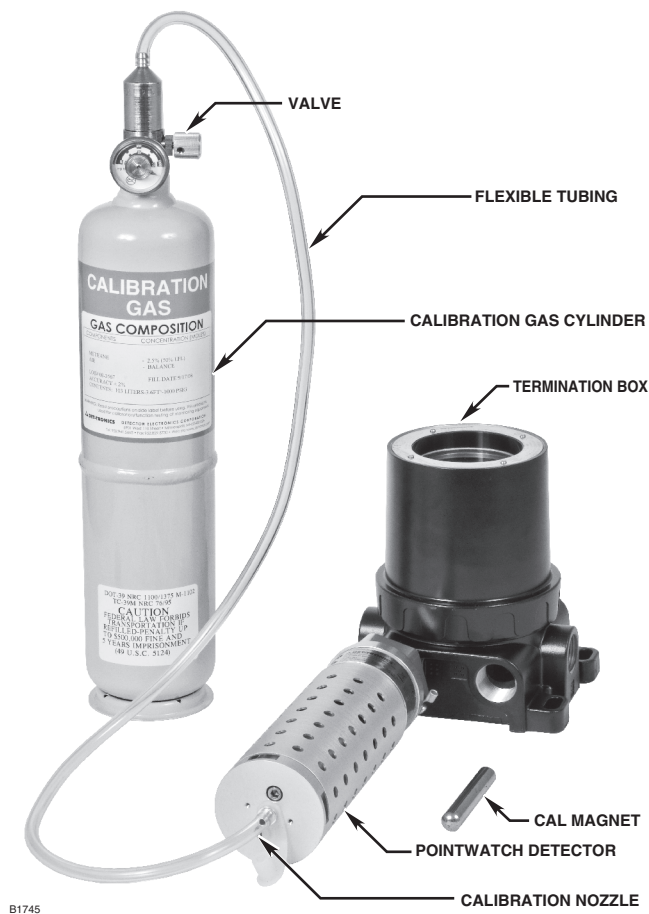
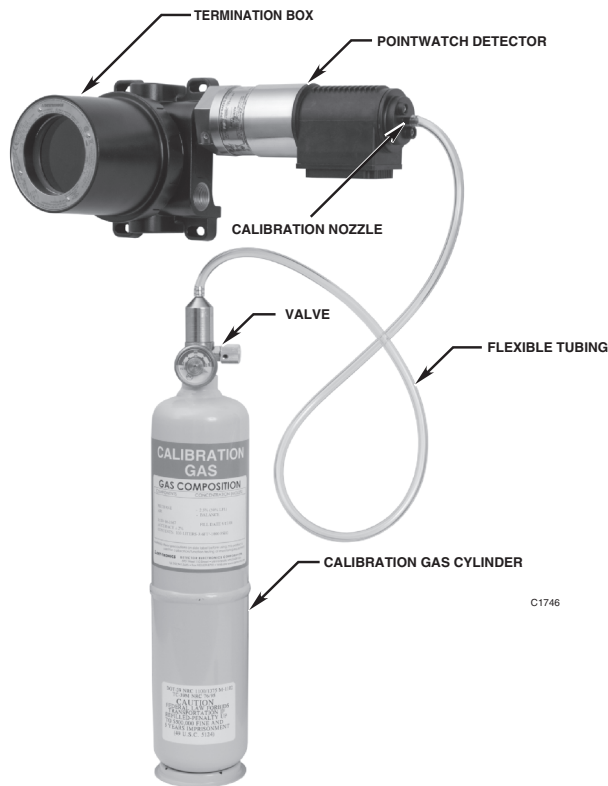

Figure 24—Aluminum PIR9400 Detector Calibration Configuration
Figure 25—Stainless Steel PIR9400 Detector Calibration Configuration
5. Connect the calibration gas canister, valve and tubing to the direct input nozzle as shown in either Figure 24 (aluminum model) or Figure 25 (stainless steel model) depending on the method used.
6. Apply 50% LFL calibration gas to the detector. This is accomplished by opening the valve on the calibration gas canister (see Figure 24 or Figure 25). A 2.5 liter per minute flow rate is recommended.
4. Connect the calibration gas canister, valve and tubing to the direct input nozzle as shown in either Figure 24 (aluminum model) or Figure 25 (stainless steel model) depending on the method used.
5. Apply 50% LFL calibration gas to the detector. This is accomplished by opening the valve on the calibration gas canister (see Figure 24 or Figure 25). A 2.5 liter per minute flow rate is recommended.